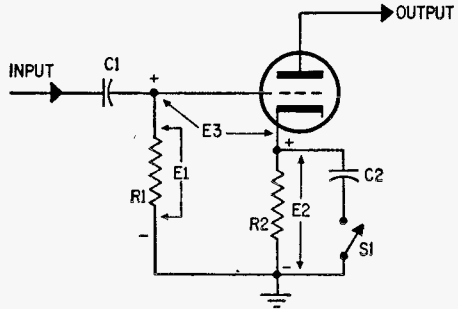

Fig. 4. Signal voltage  $E_1$  is reduced by opposing cathode-bias voltage  $E_2$  when  $C_2$  is not in circuit.
**Feedback.** Degenerative (negative) feedback is used in many amplifiers to improve frequency-response characteristics. One of the simplest techniques is shown in Fig. 4. When cathode resistor  $R_2$  is bypassed by  $C_2$  (switch  $S$  closed), there is no audio signal voltage across  $R_2$ , only DC, if the capaci-